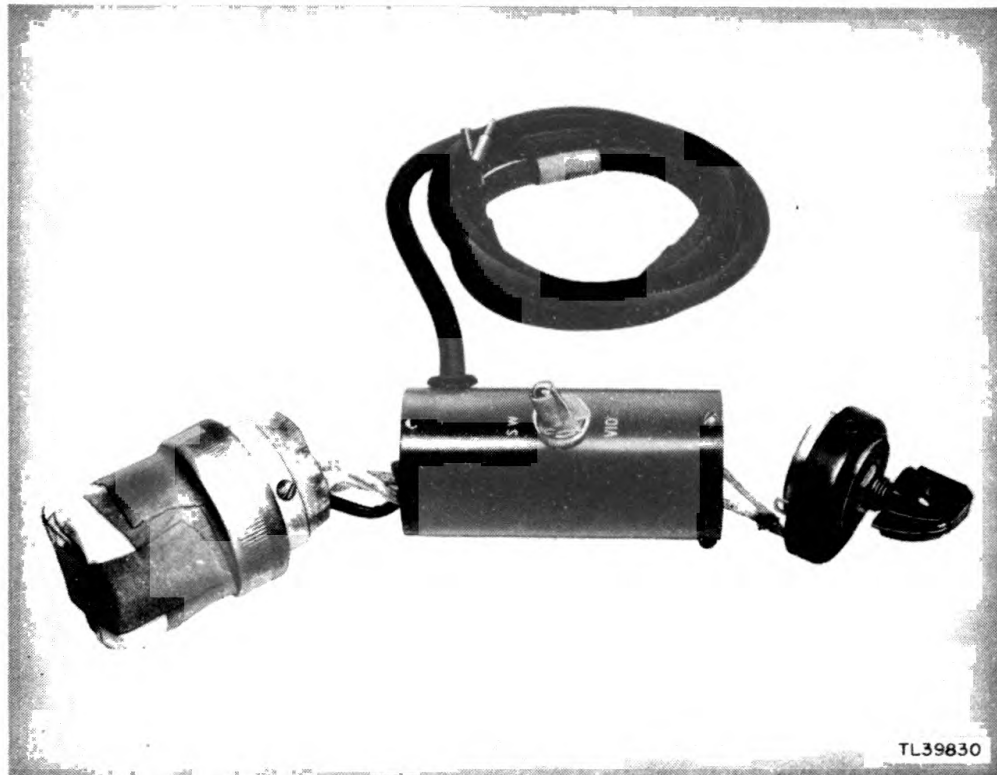

Figure 32. Test Unit BC-708-A, masking details.
(3) **MASKING** (fig. 32). Mask the socket half of the plug connector.